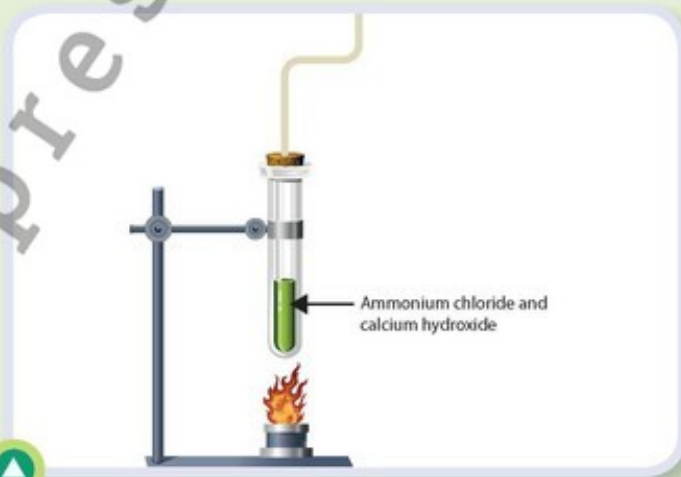

Figure 7.21
- Place the boiling tube containing the ammonium chloride and calcium hydroxide mixture in a clamp as shown in **Figure 7.21** and insert a delivery tube and stopper.